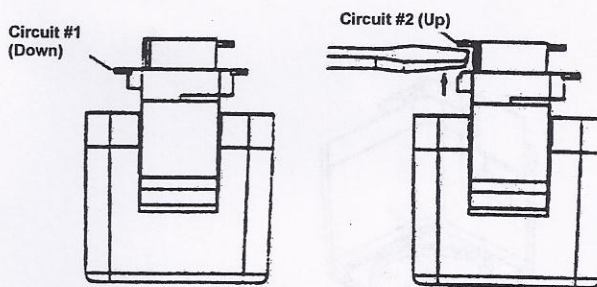

Figure 1
1. For one-circuit installation, no adjustment is required. Contact is in the down position. (Figure 1)
2. For two-circuit installation, move contact to the up position. (Figure 1)